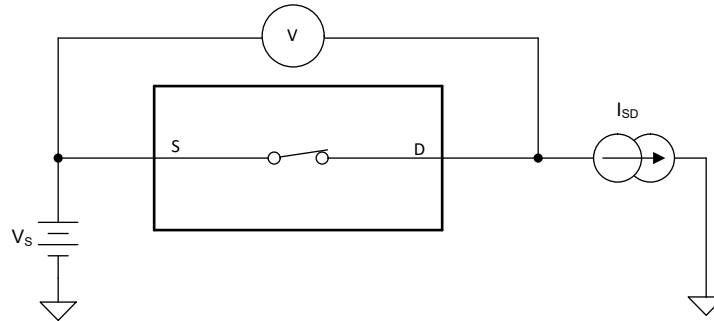

Figure 6-1. On-Resistance Measurement Setup
The On-Resistance of a device is the ohmic resistance between the source (Sx) and drain (Dx) pins of the device. The On-Resistance varies with input voltage and supply voltage. The symbol R_{ON} is used to denote On-Resistance. Figure 6-1 shows the measurement setup used to measure R_{ON} . Voltage (V) and current (I_{SD}) are measured using this setup, and R_{ON} is computed with $R_{ON} = V / I_{SD}$.